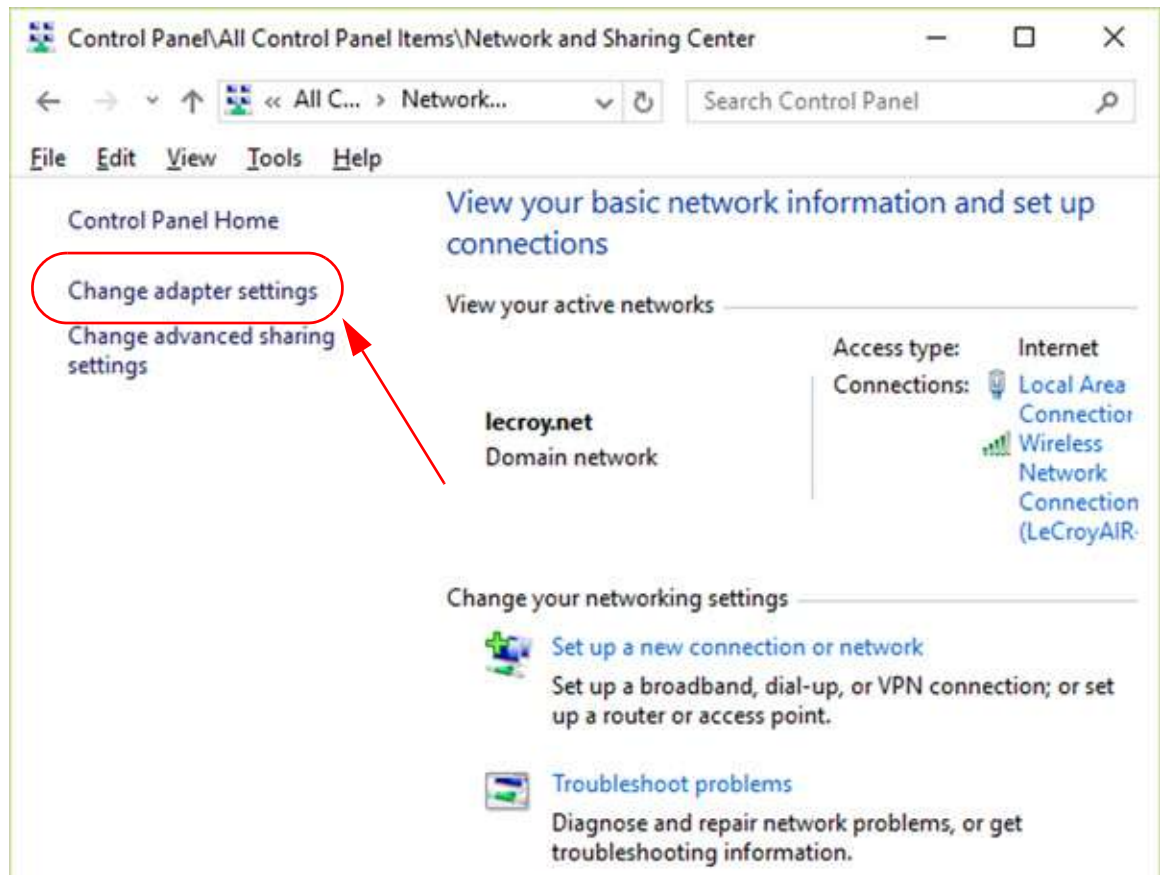

Figure 3.21: Control Panel: Change Adapter Settings
2. This will bring up the Network and Sharing Center Menu. See Figure 3.21